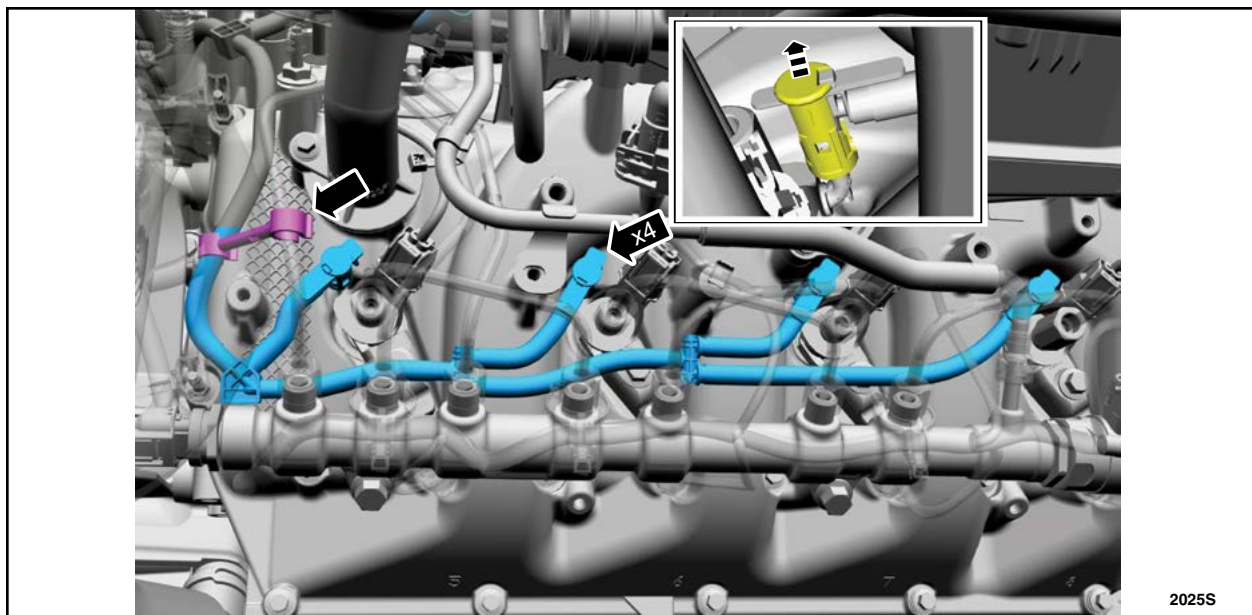

FIGURE 7
10. **NOTE:** The use of a pair of long needle nose pliers or another commercially available tool may aid in the releasing of the center fuel injector return hose fitting lock. See Figure 7.